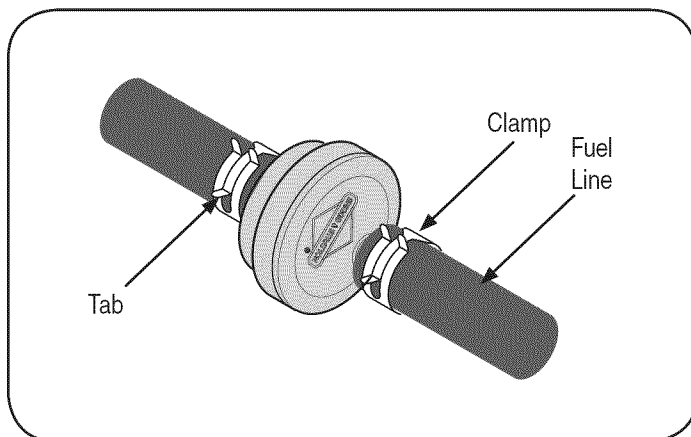

Figure 10
1. Use pliers to squeeze the tabs on the other clamp (the out-line side of the fuel filter), then slide the clamp away from the fuel filter. Twist and pull the fuel line off of the fuel filter. See Figure 10.